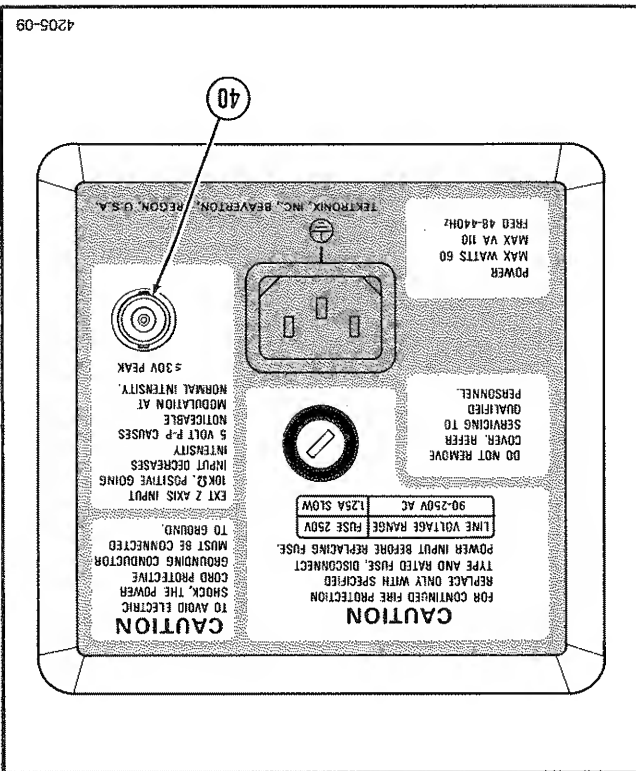

Fig. 2-9. Rear-panel connector.
Refer to Figure 2-9 for location of item 40.